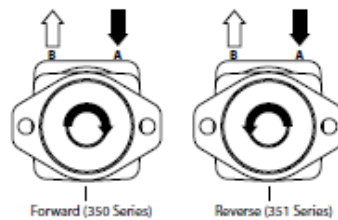
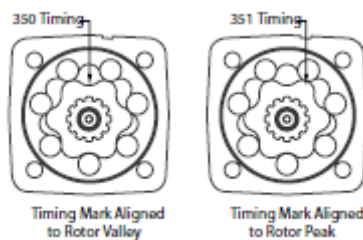

Figure 2: WS 350/351 Direction of rotation
Figure 3: Motor timing
6. If dust seal (19) was used, install in housing (7) with lip facing up prior to flipping housing over to secure in vise. If excluder seal (1) was used flip housing over and install excluder seal (1) into housing (7) with the lip facing down.
7. Align shaft seal (2) with flat side of seal facing excluder seal (1) if used, and press seal in with a flat surface tool until seal stops. Press the shaft assembly (18) into housing (7) lining up the “V” set of lines on the bottom of the housing and shaft assembly.
8. Install o-ring (3) after a slight stretch to expand the diameter of the seal into seal groove of housing (7). Install drive link (9) and seat into shaft assembly (18).
10. Install the wear plate (8) with the counter bore towards the housing (7).
- a. Replace seal (4) in the rotor set (10) and place onto the wear plate (8).
- b. Place driver (12) on top of drivelink (9) engaging splines in rotor set (10). Make sure timing mark on the driver is pointing away from drive link (see *Figure 2* and *Figure 3* on page 7 for motor timing).
- c. Replace seal (4) in the manifold (11) and place over driver and onto rotor set (10).
The seals are cone shaped. The I.D. of the outer seal and the O.D. of the inner seal should be installed towards the piston. The opposite edges should be coming out away from the piston (see *Figure 3: Figure 3* on page 11 for installation of the piston seals).